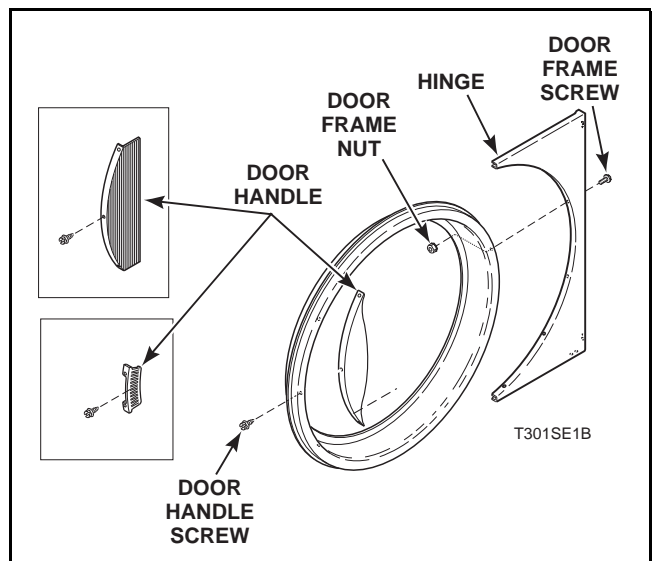

Figure 2
- Remove nuts and screws holding hinge to door frame. Refer to *Figure 2*.
Refer to *Figure 2*.